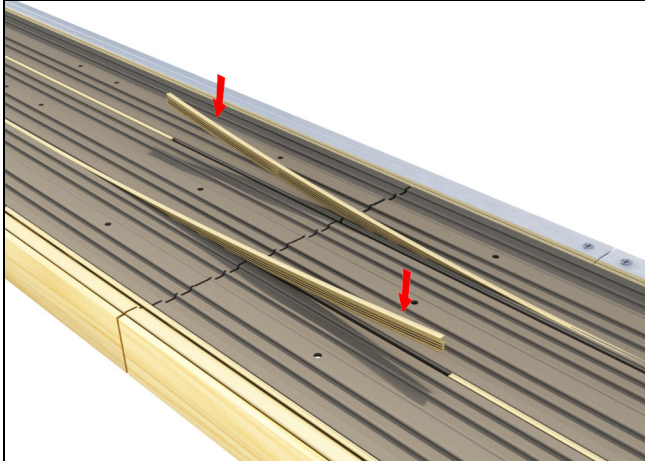

Figure 9
6. Press supplied frame wedge into head jamb frame assembly kerf and cut to length. Tapping gently with a soft mallet. See figure 9.